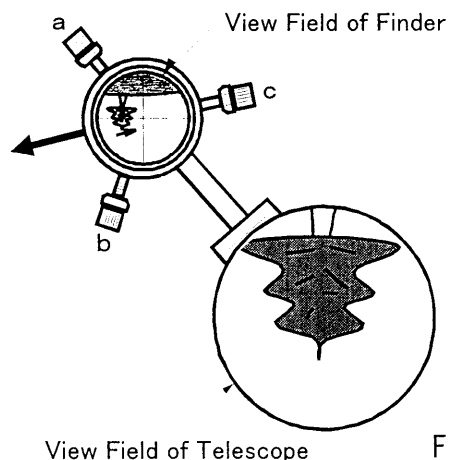

Fig. 12
The TOA-150B uses a rack-and-pinion focuser. This focuser enables the observer to focus rapidly. Turning the focuser clockwise will move the drawtube out, while turning it counter-clockwise will move the drawtube in. Refer to Fig. 12.
2. In order to move the crosshair in the direction of the arrow, first loosen screw (a) and tighten (push) the finder with screw (c). This procedure will move the crosshair in the desired direction. The top of the finder will move in the opposite direction and the object will move in the direction of the smaller arrow. Refer to Fig.12.